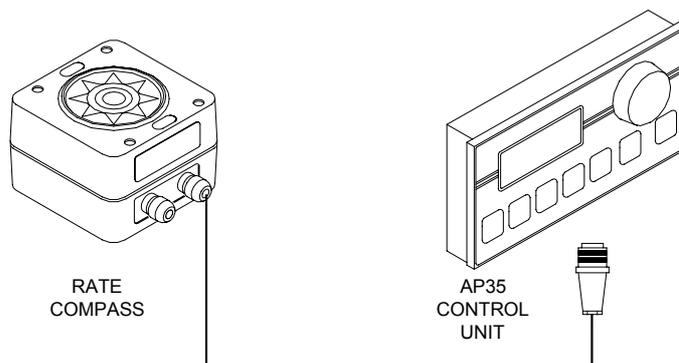

Figure 4-16 RC25 Connection to AP35 Control Unit
- Connect the Robnet connector to the AP35 Control Unit (or CI300X or NI300X if installed), see Figure 4-16.